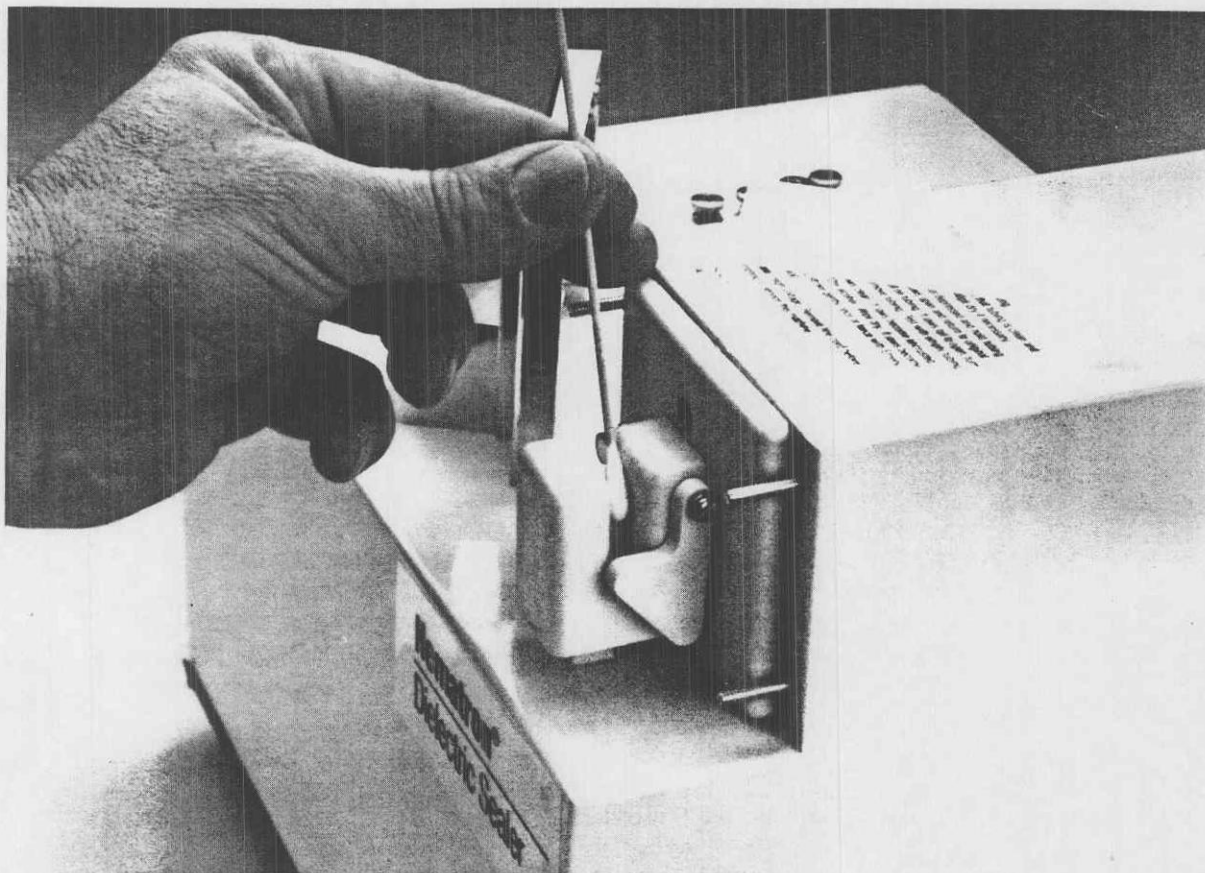

Figure 2-4 Sealer Head Cleaning
1. Clean the jaw surfaces of the sealer head gently but thoroughly with a mild detergent or 70% alcohol solution using a swab or small stiff-bristled brush (see Figure 2-4). Wipe the jaws completely dry with a cotton swab or paper towel.